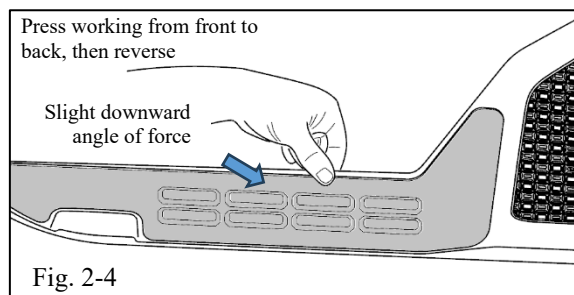

Fig. 2-4
- (e) Using 2 fingers and a slight downward force, pinch the door panel pocket and Protector in a continuous slow motion along the entire top edge from front to back (Fig 2.4). Once complete, reverse direction and repeat working from back to front.
- (e) Again, as in Fig 2-4, using 2 fingers and a slight downward force, pinch the door panel pocket and Protector in a continuous slow motion along the entire top edge from front to back. Once complete, reverse direction and repeat working from back to front.